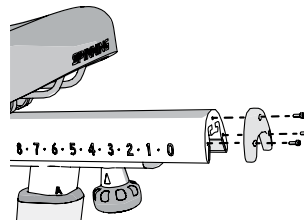

Figure 7
3. Attach the seat slider end cap **7** using three bolts **3** (Figure 7) and fully tighten with a hex key **8**.